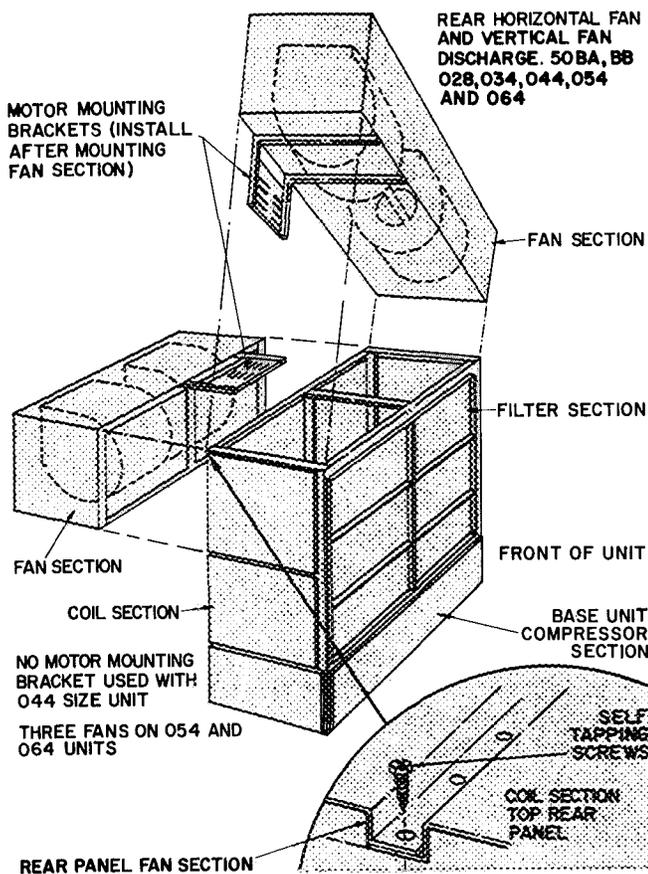

Fig. 4 – Fan Mounting
2. Lift and position fan section on rear of coil section, Fig. 4. Fasten with provided fasteners
- a. Rear coil section panel (1a) on top of coil section. Rear holes will overlap fan section top panel. Fasten using hole vacated in (1c). See Fig. 4.
2. Lift and position fan section on coil section, Fig. 4.